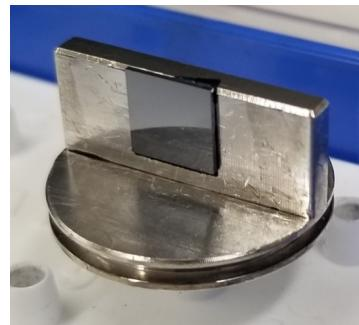

Figure 4.8: Ideal silicon cross-section preparation on 90° mount
- Prepare samples as above for silicon except on a 45° or 90° mount (see Fig. 4.8). 45° mounts are useful if you want a shallowly tilted image and a full cross-section in the same imaging session (since you can tilt the stage a further 45° to obtain a 90° image).